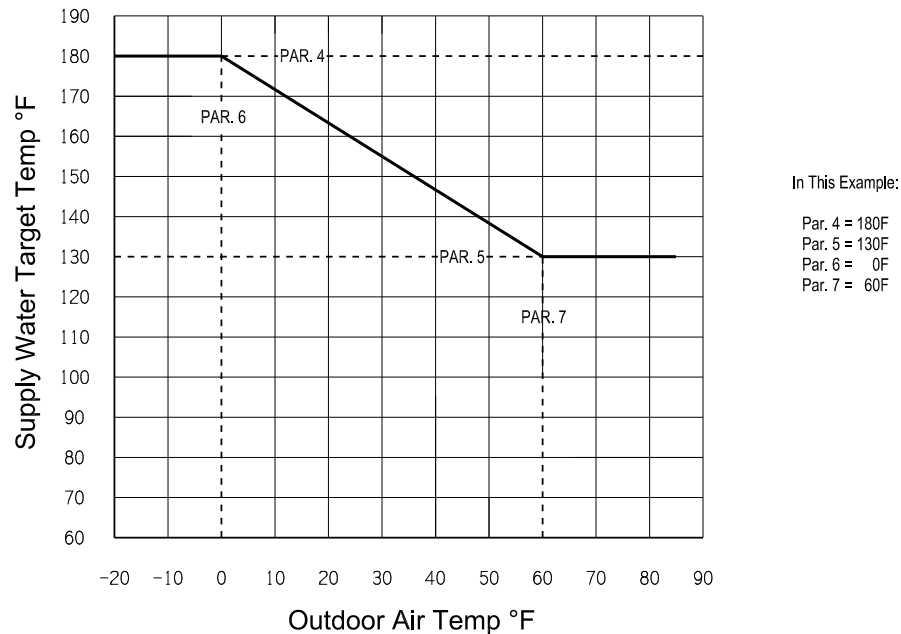

Figure 12.4: Outdoor Reset Curve
- 4) If an outdoor sensor is installed, the boiler will automatically adjust the heating zone set point temperature based on the outdoor reset curve in Figure 12.4. The maximum set point is defined by parameter 4 (factory set to 180°F) when the outdoor temperature is 0°F or below. The minimum set point temperature shown is 130°F when the outdoor temperature is 60°F or above. As the outdoor temperature falls, the supply water target temperature increases. For example, if the outdoor air temperature is 30°F, the set point temperature for the supply water is 155°F.
- e) Once the flame stabilization period has ended, the MCBA allows the burner to modulate. The actual firing rate is dependent upon the measured current and recent differences between the set point temperature and the supply temperature. If an outdoor sensor is connected to the control module and the boiler is responding to a call for heat, the set point temperature will be determined by the outdoor reset curve shown in Figure 12.4.